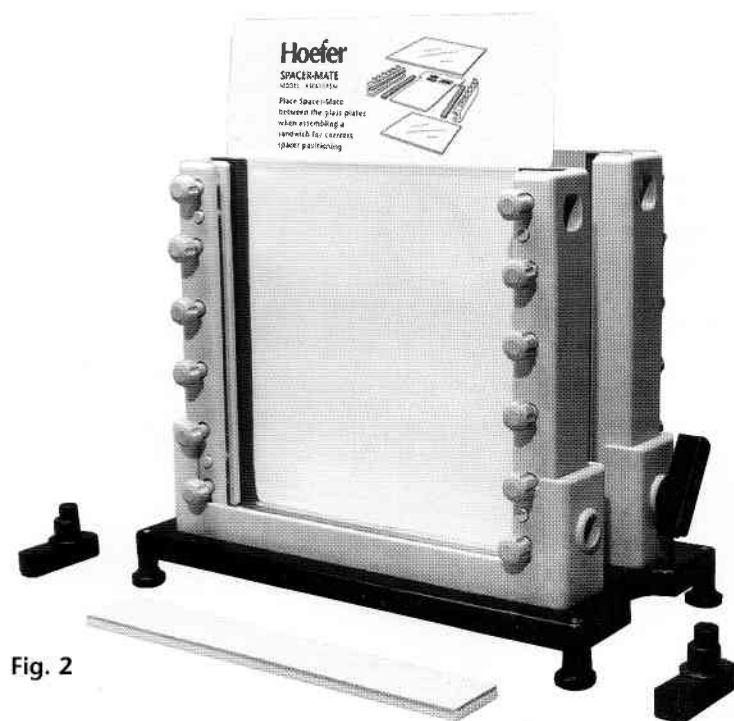

Fig. 2
- 3 Place the sandwich into the casting cradle (without the gasket) to hold the alignment while firmly tightening the clamp screws. Remove the sandwich from the cradle. (Fig. 2, front sandwich)
- 4 Insert the gasket in the cradle, grey side up, and then insert the sandwich. Install cams and turn only as far as needed to seal the bottom of the sandwich—120° to 150° (Fig. 2, rear). Watch for the glass edge to appear darker as it seals against the gasket.